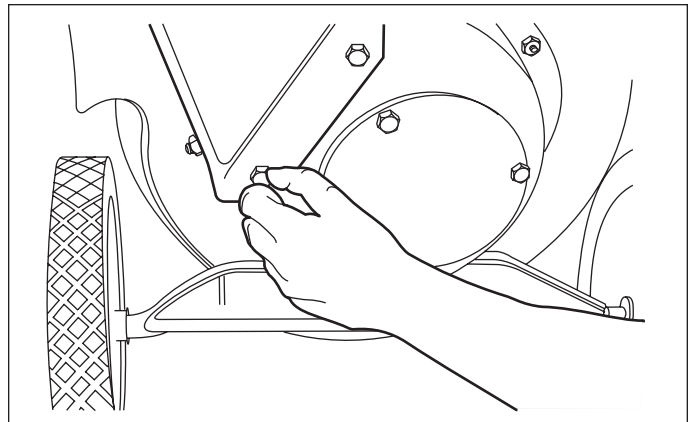

Figure 19. Attaching the Hopper
2. Secure the hopper to the rotor housing using two 5/16 x 1/2 hex head bolts and two 5/16 flat washers (Figure 19). Do not tighten hardware at this time.